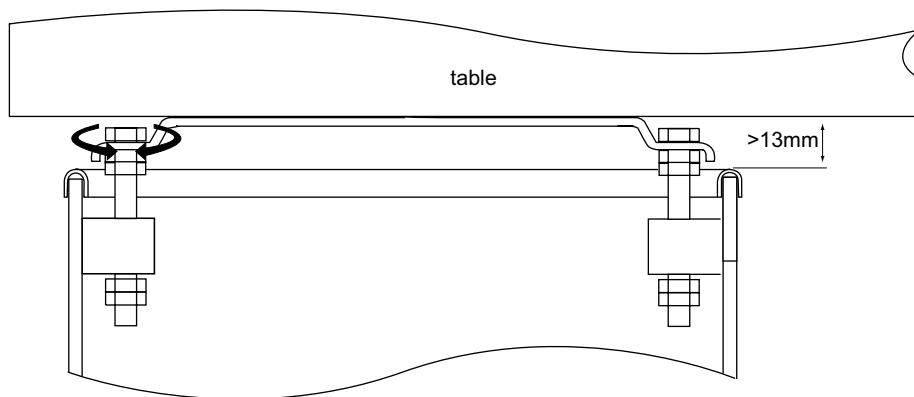

Fig. 4.5 Levelling the system
- 2) Repeat item 1) for the support diagonally opposite.
- 3) Repeat items (1) and (2) for the remaining two supports.
- 4) Repeat items (1) to (3) until all four supports have a gap of 13mm between the outer cylinder and the underside of the table – see Fig. 4.5.